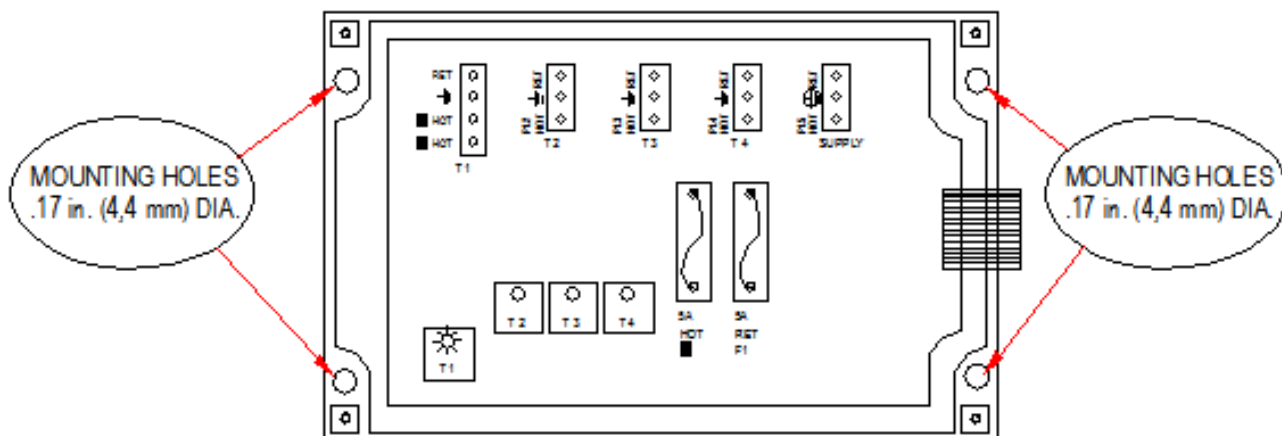

Fig. 2
Mount the bottom half of the controller using the four (4) holes provided (Fig. 2).